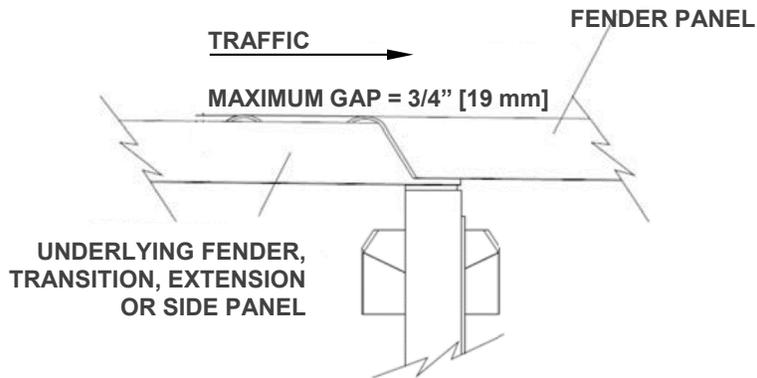

Figure 42
- 4) Wrap a chain, 3/8"X20' Grade 40 minimum, around the first Diaphragm (Figure 42). Attach both ends of chain to truck bumper anchor points.